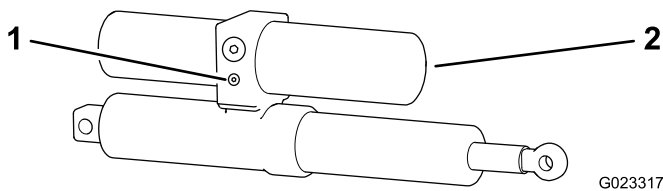

Figure 20
1. Locate the manual relief valve on the actuator for each boom (Figure 20).